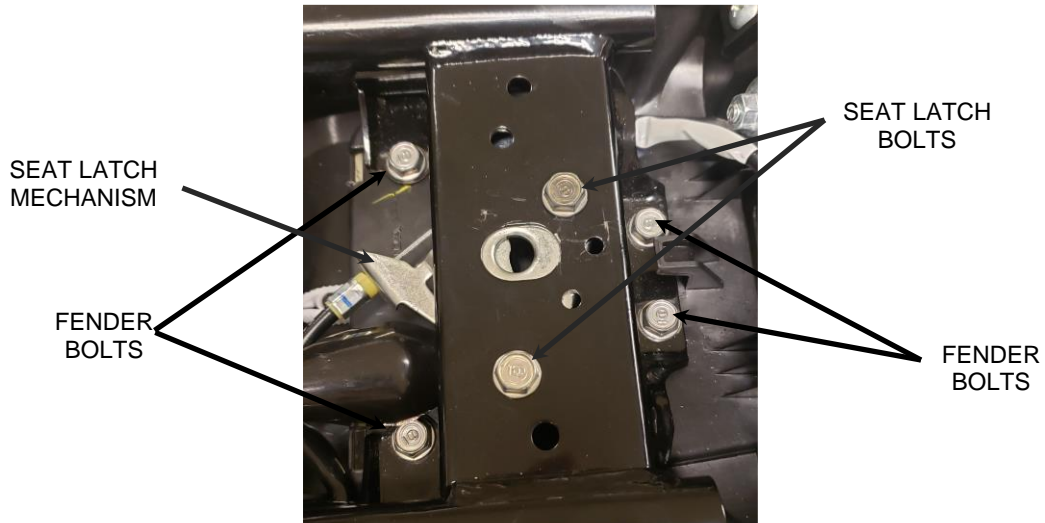
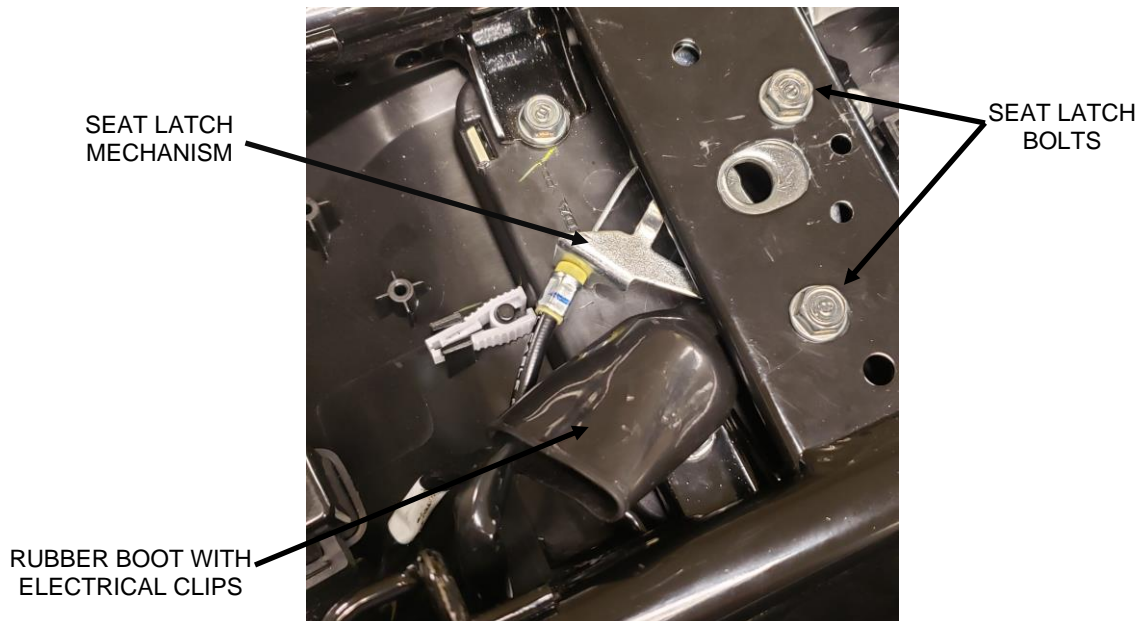

FIGURE 2
FIGURE 8
3. Remove the two bolts that secure the seat latch mechanism and set aside for reuse. Position the latch away from the workspace to make it easier to feed the electrical plug through the plastic hole in the subframe. See **Figure 2**.
4. Remove the four bolts securing the rear fender assembly and set aside for reuse. Carefully feed the turn signal harness plug through the plastic hole in the subframe and remove the fender. Take caution not to let the fender drop during removal. See **Figure 2**.
14. Carefully feed the electrical plug and the rubber boot back through the plastic hole in the motorcycle subframe and position the license plate relocater in place of the rear fender assembly. Hold up the license plate relocater while positioning the rubber boot in the open space in the motorcycle subframe. Route the wiring harness in its stock position and reconnect the electrical plug. Make sure that there is not tension on any of the wires or electrical clips. See **Figure 8** and **Figure 1**.
15. Install the license plate relocater by inserting the four stock bolts from Step 4 through the motorcycle subframe bracket and into the threaded bosses in the license plate relocater. Tighten securely. See **Figure 2**.
16. Reinstall the seat latch mechanism with the stock bolts from Step 3 and tighten securely. See **Figure 8** and **Figure 2**.